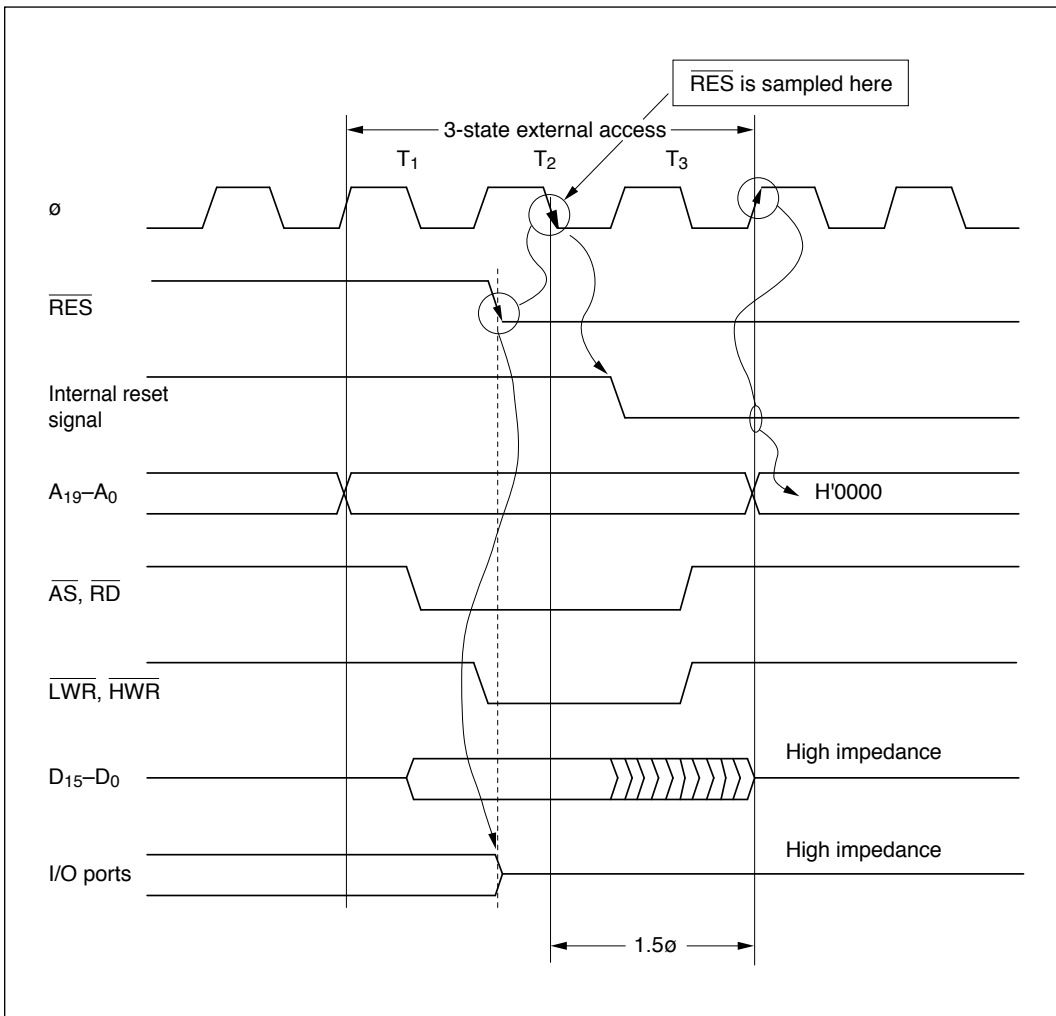

Figure G-3 Reset during Three-State Access (Modes 3 and 5)
(3) Modes 3 and 5: Figure G-3 is a timing diagram for the case in which $\overline{\text{RES}}$ goes low during three-state access in mode 3 or 5. As soon as $\overline{\text{RES}}$ goes low, all ports are initialized to the input state. $\overline{\text{AS}}$, $\overline{\text{RD}}$, $\overline{\text{LWR}}$, and $\overline{\text{HWR}}$ go high, and D_{15} to D_0 go to the high-impedance state. A_{19} to A_0 are initialized to the low state 1.5 system clock cycles (1.5 ϕ) after the low level of $\overline{\text{RES}}$ is sampled.